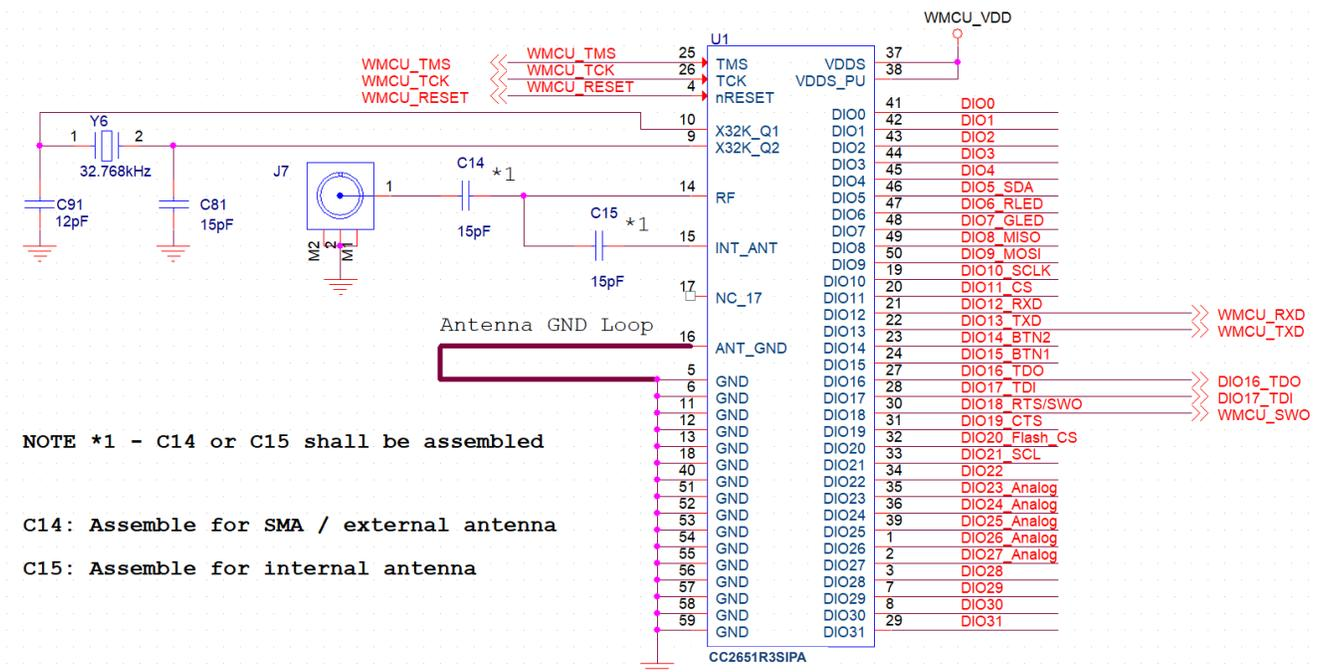
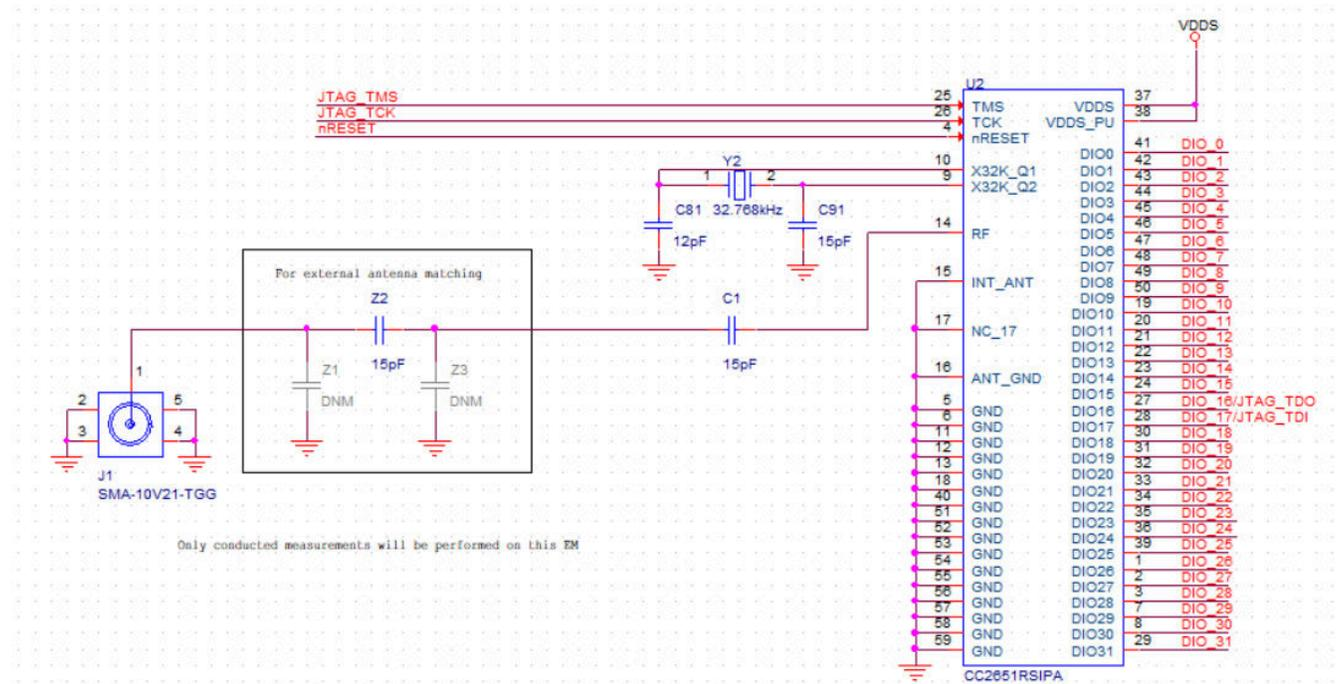

图 10-1. CC2651R3SIPA Typical Application Schematic
图 10-2. CC2651R3SIPA Typical Application Schematic for External Antenna Connection
图 10-1 shows the typical application schematic using the CC2651R3SIPA module. Note that C15 should be assembled when using the integrated antenna option within the module and when the layout design guidelines in 节 10.4.2 are strictly followed. If the layout guidelines described in 节 10.4.2 cannot be followed, it is recommended to implement the alternate application circuit schematic in 节 10.2 and follow the alternate layout guidelines in 节 10.4.4.
If using the external antenna option, C14 should be assembled. In addition, Pin 15 of the module should be connected to GND as shown in 图 10-2. For the full reference schematic, download the LP-CC2651R3SIPA Design Files.
- π or L matching and tuning may be required between RF out path, pin 14, and the external connection as shown in 图 10-2.
表 10-1 provides the bill of materials for a typical application using the CC2651R3SIPA module with the internal antenna as shown in 图 10-1, while 表 10-2 provides the bill of materials for a typical application using the CC2651R3SIPA module with an external antenna as shown in 图 10-2
In order to meet the module power-on-reset requirements, VDDS (Pin 37) and VDDS_PU (Pin 38) should be connected together. If the reset signal is not based upon a power-on-reset and is derived from an external MCU, then VDDS_PU (Pin 38) should be No Connect (NC). Please refer to 图 10-1 for the recommended circuit implementation.